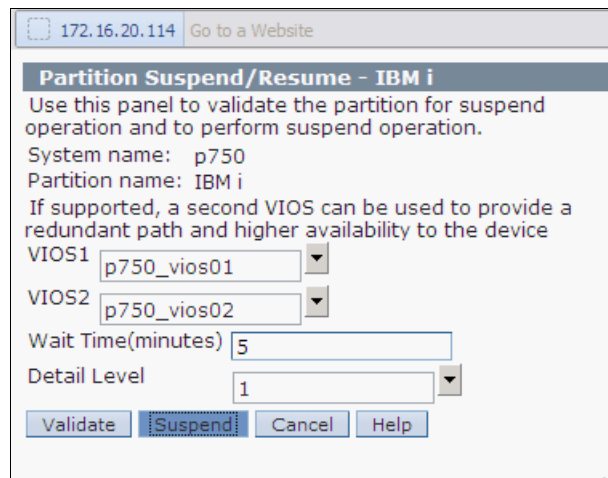

Figure 13-12 Options for partition validate and suspend
3. Select the Virtual I/O Servers and click **Suspend** as shown in Figure 13-12.